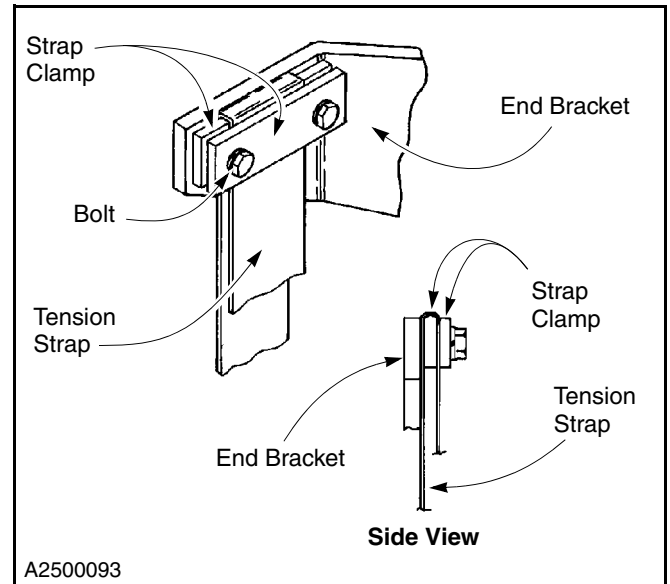

Figure 59
7. Loosen the tension strap clamp bolts. (See Figure 59.)